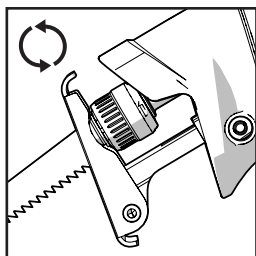

Fig. 1
- Twist and hold the blade clamping dial anti-clockwise. (**Fig. 1**)